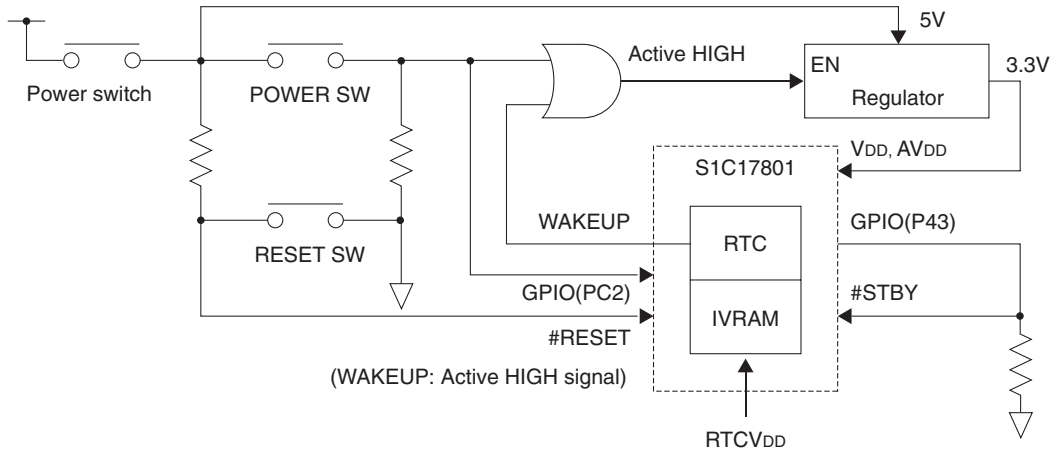

Fig. 10.2.1 Power Control Circuit for Battery Backup Function
Figure 10.2.1 shows the power control circuit for SVT17801 battery backup function.
In order to enable backup battery function on the circuit installed on SVT17801 as shown in the figure 10.2.1, JP2 and JP3 must be set to WAKEUP ENABLE and Battery respectively (both factory default).
JP3 selects supply source of RTCV_{DD} shown in the figure 10.2.1. If Battery is selected, RTCV_{DD} is supplied from the coin cell battery (CR2032) and if V_{DD} is selected, RTCV_{DD} is supplied from V_{DD}. For detail of JP settings, see Chapter 8.
The following list shows GPIO (PC2) status and V_{DD} voltage according to power switch and WAKEUP pin statuses when JP1 and JP2 are set to EnableWakeup and Battery respectively in the circuit shown in the figure 10.2.1.
The following is an example to show how to set up standby mode in the circuit shown in the figure 10.2.1.
The following is an example to show how to release standby mode in the circuit shown in the figure 10.2.1.
- ① In Step ⑤ of above set-up example 1, the standby mode is released (WAKEUP pin is turned HIGH) after predefined time has passed, and the output of regulator shown in figure 10.2.1 becomes always 3.3V.
- ① Press power switch.
- ② While the power switch is being pressed, the output of regulator shown in figure 10.2.1 becomes 3.3V, S1C17801 starts operating and, immediately after that, the standby mode is released by turning the WAKEUP signal HIGH.
- ③ By turning the WAKEUP signal HIGH at Step ②, the output of regulator shown in figure 10.2.1 becomes always 3.3V.